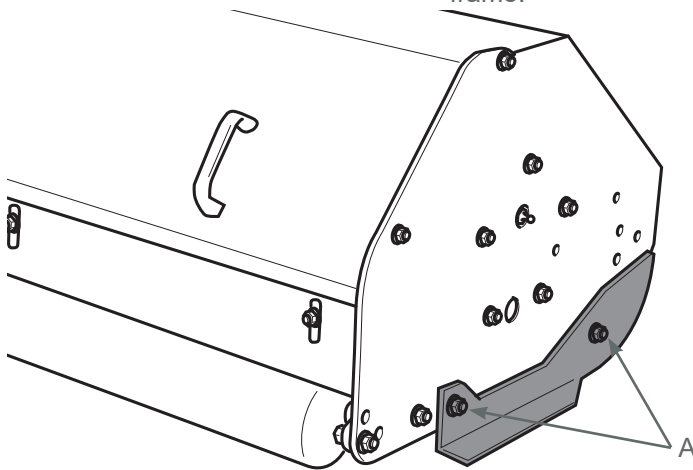

Fig. 27
Thanks to the presence of a particular anchoring system and the installation of a specific hinge (A), the MP shredder can easily continue its path even in the presence of obstacles and protrusions on the ground and allows maintaining of its stability even in the event of uneven ground (Fig. 27).
- 1) Remove the fixing screws "A" of the skids (Fig. 27).